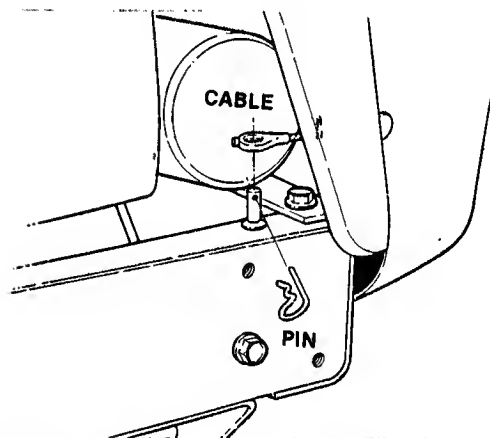

FIG. 11 - RELEASE CABLE TO TILT HOOD FULL FORWARD
**SERVICE ACCESS:** to raise hood full forward for service access to the engine, pull the hairpin from the post shown in FIG. 11, and disconnect the cable from the retaining post.